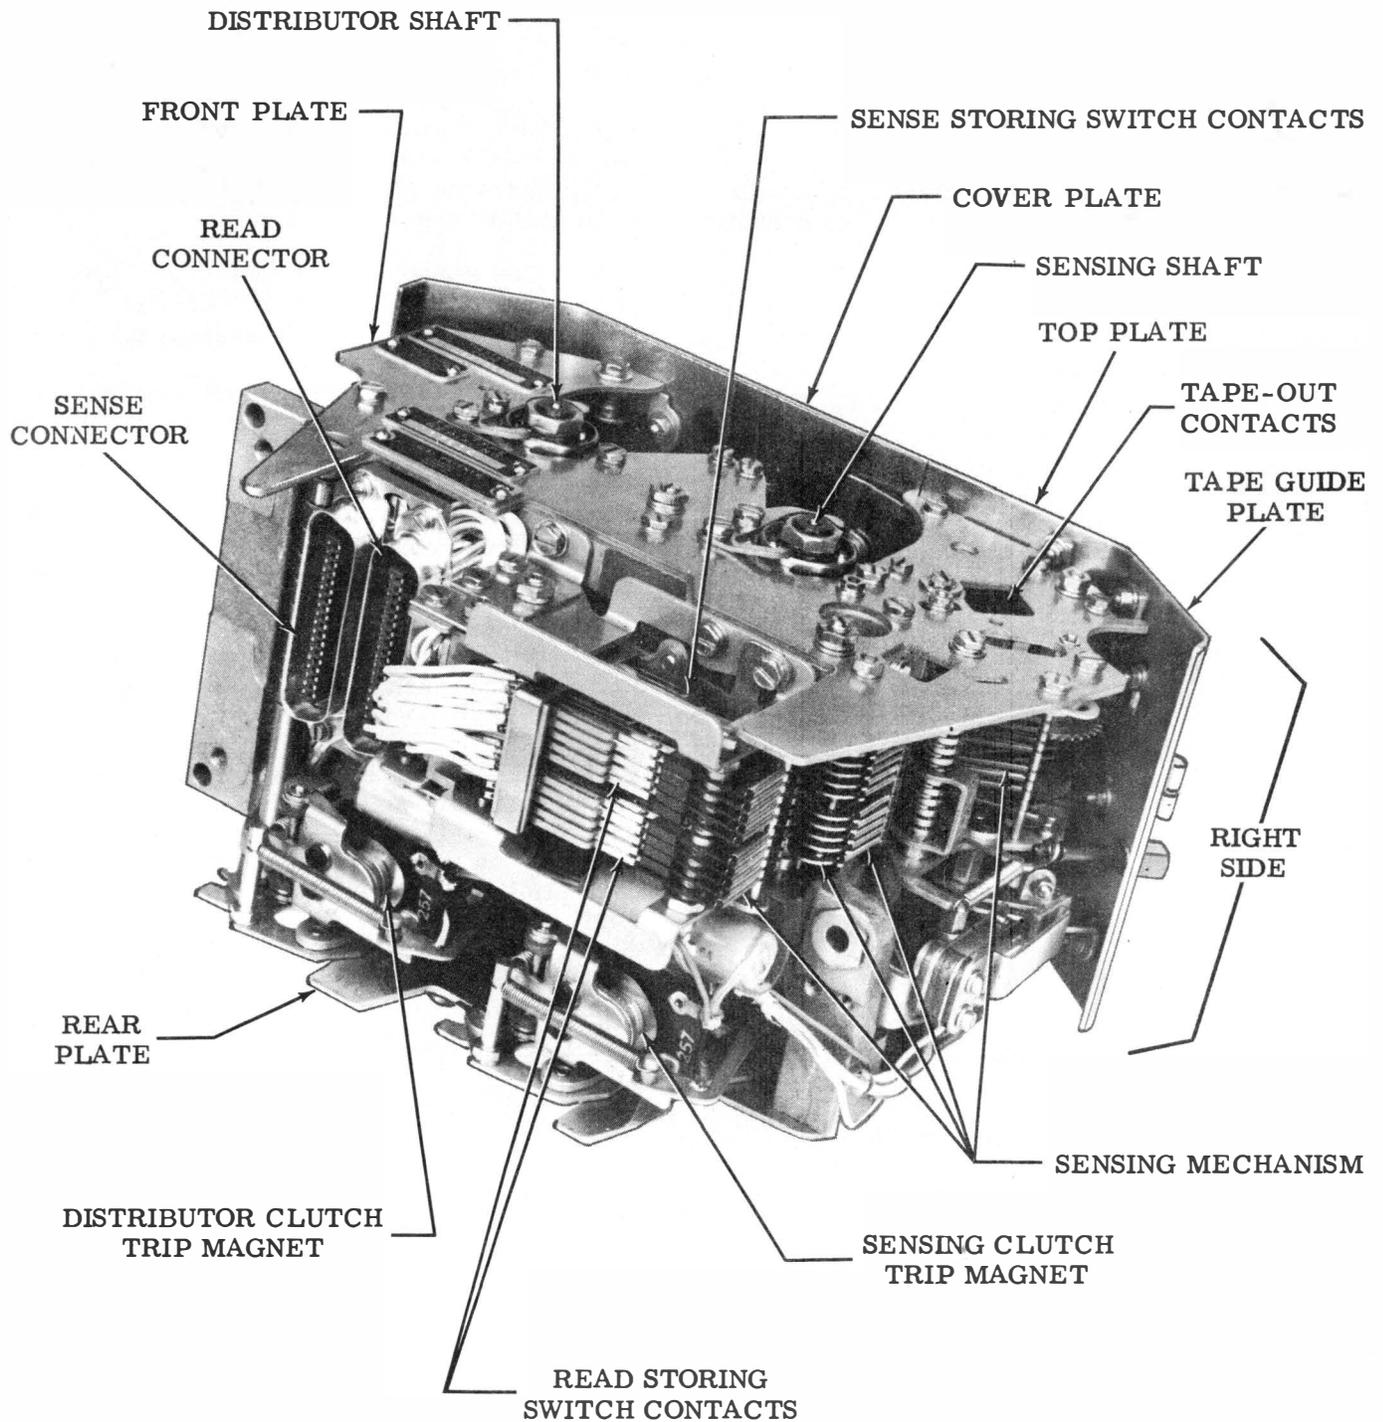

Figure 4 - Typical 35 Transmitter-Distributor Unit, Bottom View
- (2) Two clutch trip magnets for control of the cam sleeves (Figure 4).
- (3) Two shafts for driving the cam sleeves. A gear on each shaft and an idler gear provide a constant speed (Figure 4).
- (l) An electrical connector for terminating all wiring including the signal circuits. An additional connector is used for the read storing switch on units so equipped (Figure 4).